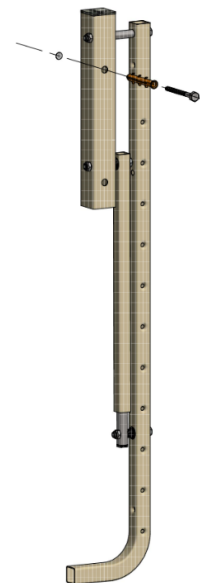

Figure 2 – Mount Arm Assembly
- Each assembly is marked with a “Wall Side” sticker. Make sure this is placed against the wall. Align the top hole in the arm assembly bracket with the hole in the wall (Fig 2) and push the nylon anchor through the bracket and into the wall. Insert the screw, level the bracket and tighten the screw.